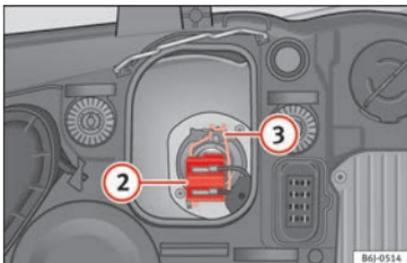

Fig. 97 Dipped beam headlights.
- Remove connector »» Fig. 97 ② from the bulb.
- Unclip the retainer spring »» Fig. 97 ③ pressing inwards to the right.